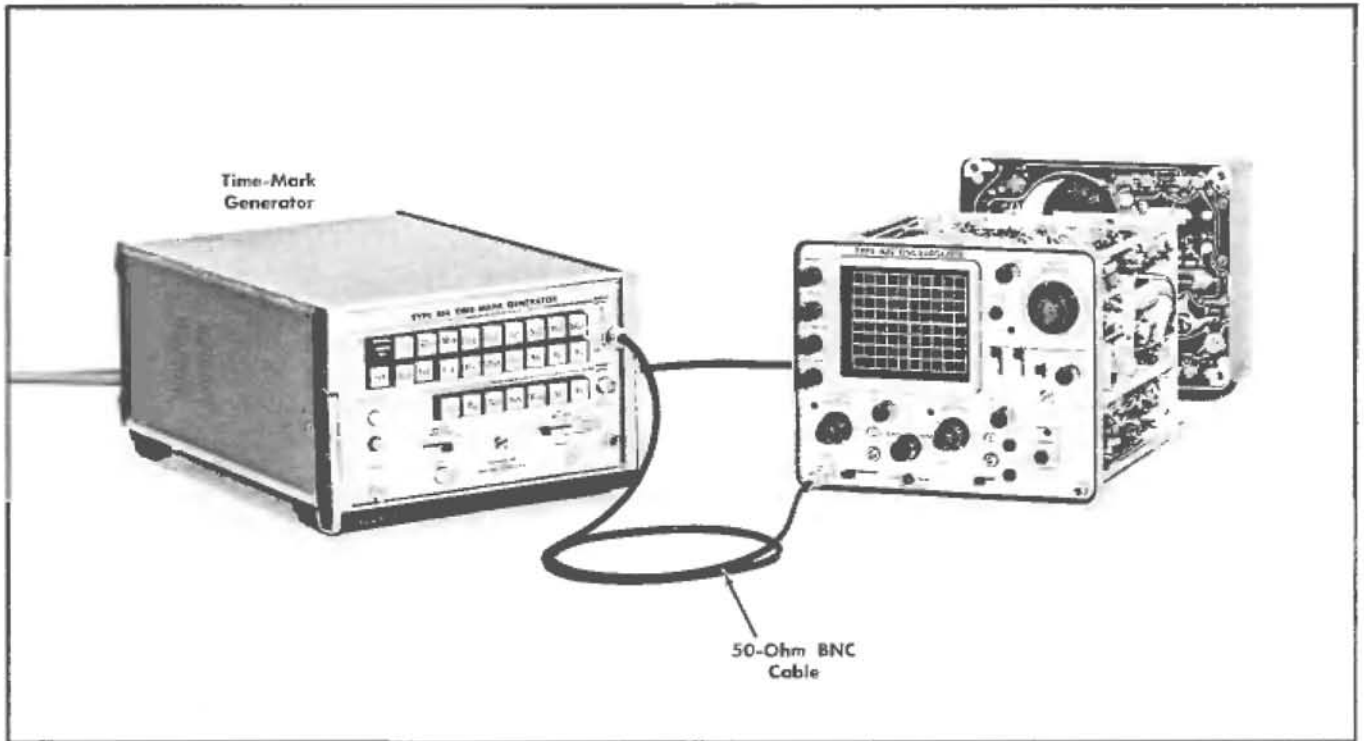

Fig. 6-10. Initial test equipment setup for steps 6—10.
- Test equipment setup is shown in Fig. 6-10.